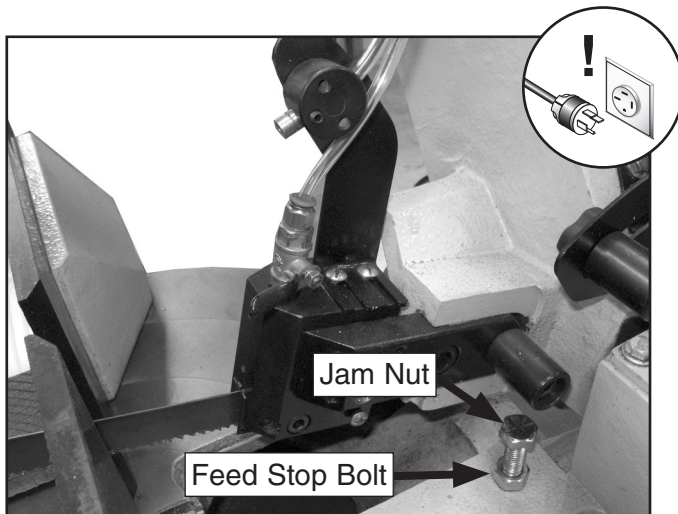

Figure 63. Feed stop bolt.
Adjust the feed stop bolt and jam nut (**Figure 63**), so the bandsaw blade teeth are just below the vise table surface when the cut is complete.
4. Connect the machine to power and lower the saw bow until it contacts the feed stop bolt (**Figure 63**).